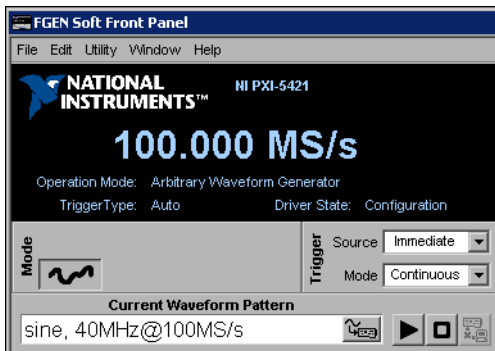

Figure 11. FGEN SFP Display with NI PXI-5421 Selected
4. Verify that the module you installed appears on the FGEN SFP display, as shown in Figure 11.
- ◆ NI 5411/5431—Verify that the single arbitrary waveform output button located in the Mode section is selected, as shown in Figure 11.